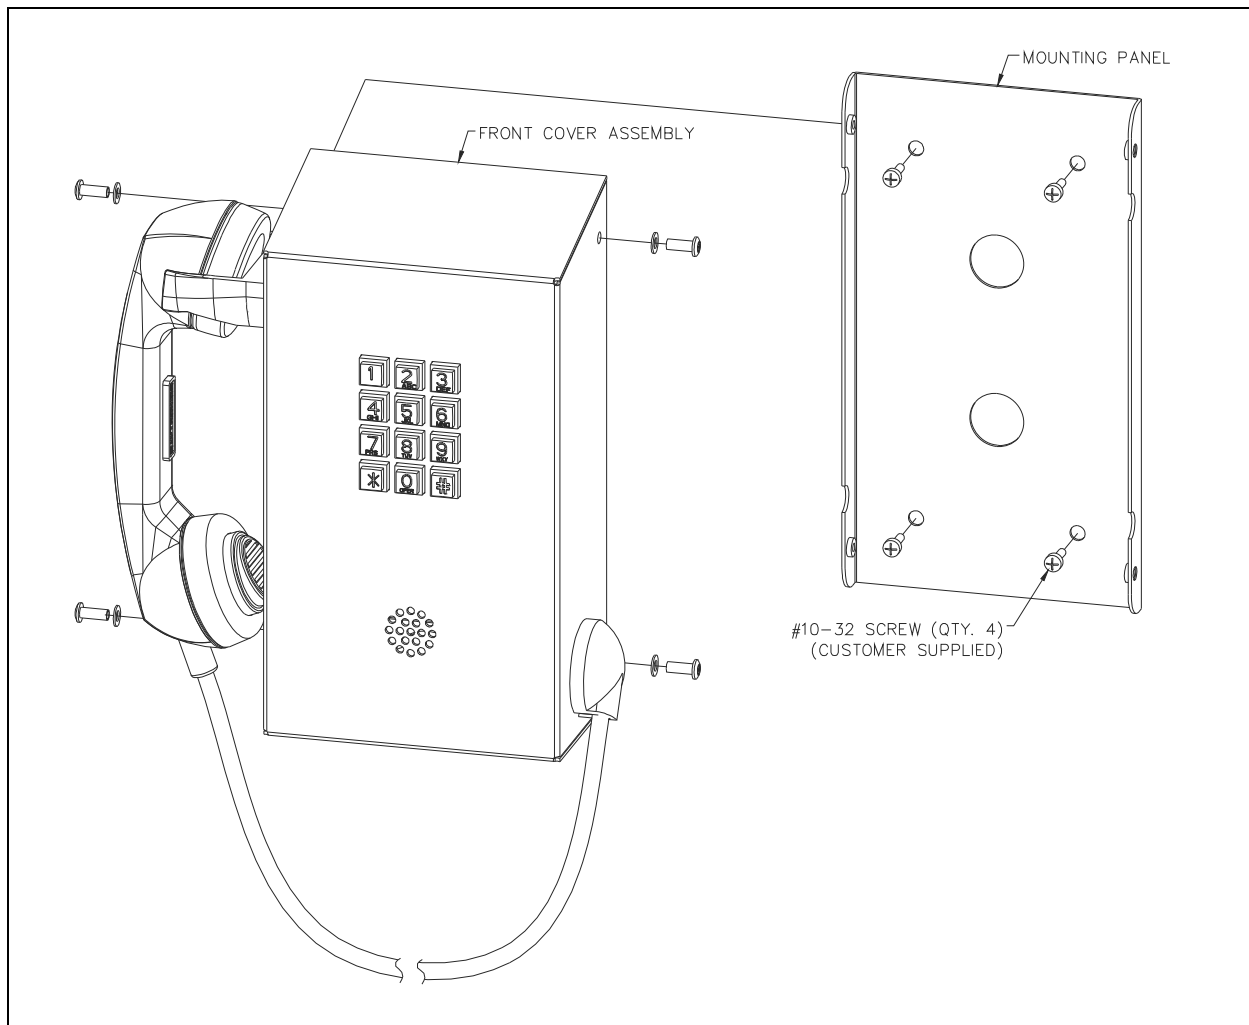

Figure 4. Mounting Details (Model 210-001 Shown—Same for all models)
2. Remove the front cover assembly to expose the four mounting holes on the mounting panel. These holes accept #10-32 screws (customer provided). The length of these screws will depend on the mounting surface (see Figure 4).
The volume level of the ringer can be adjusted. Follow the steps in the “Mounting and Wiring Instructions” section on Page 3 to open the enclosure. The ringer is mounted on the bottom of the enclosure and has a volume control knob. This knob can be turned to open or close the audio ports to increase or decrease the volume by 15 dB. (See Figure 4.)